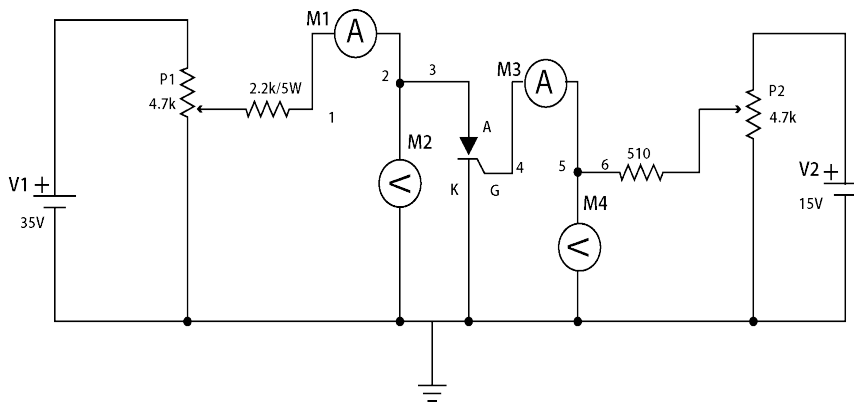

Figure 1
1. Connect the circuit as shown in Figure 1 using patch cords.